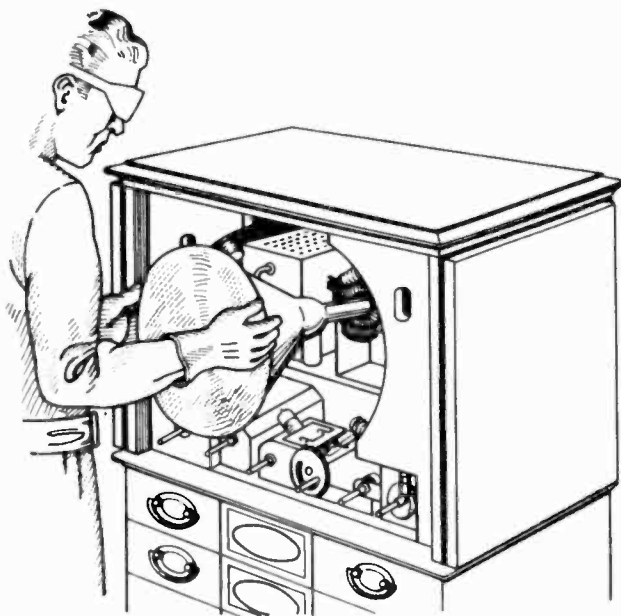

Figure 4—Kinescope Insertion
**KINESCOPE INSTALLATION.**—Slip the cellulose boot over the metal cone of the kinescope, turn the tube so that the key on the tube base will be down and insert the kinescope neck through the deflection and focus coils as shown in Figure 4. If the tube sticks, or fails to slip into place smoothly, investigate and remove the cause of the trouble. Do not force the tube.